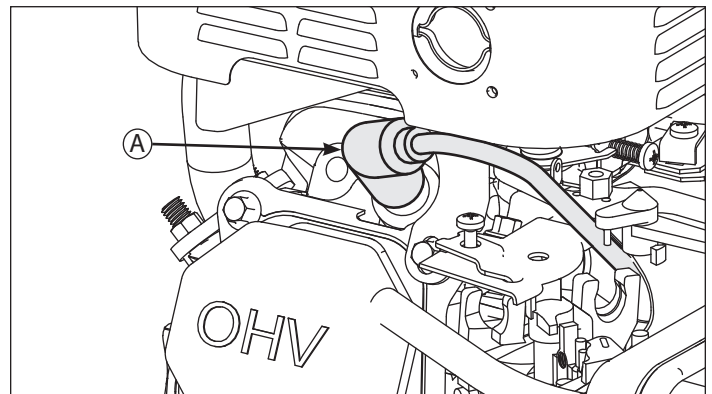

FIGURE 12
1. Disconnect the spark plug wire and secure it away from the spark plug. **SEE FIGURE 12** (on page 16)
1. Disconnect the spark plug wire and secure it away from the spark plug. **SEE FIGURE 12**
2. Disconnect the spark plug wire and secure it away from the spark plug. **SEE FIGURE 12**
2. Disconnect the spark plug wire and secure it away from the spark plug. **SEE FIGURE 12** (page 16)